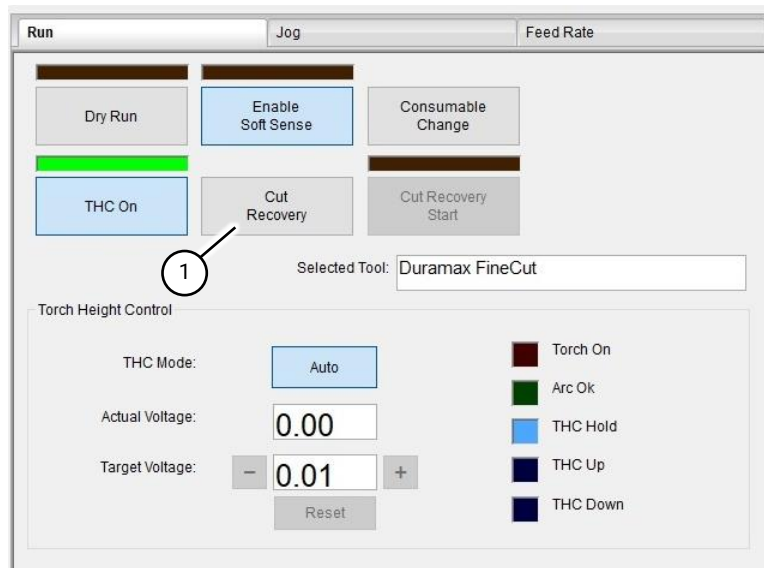

Fig 82 Cut Recovery button
1. The Cut Recovery button (Fig 82 (1)) is used for restarting from a specific point. To use the Cut Recovery button, proceed as follows:
- 1.4 Press the Cut Recovery button (Fig 82 (1)). The torch will automatically position itself on the nearest point on the toolpath.